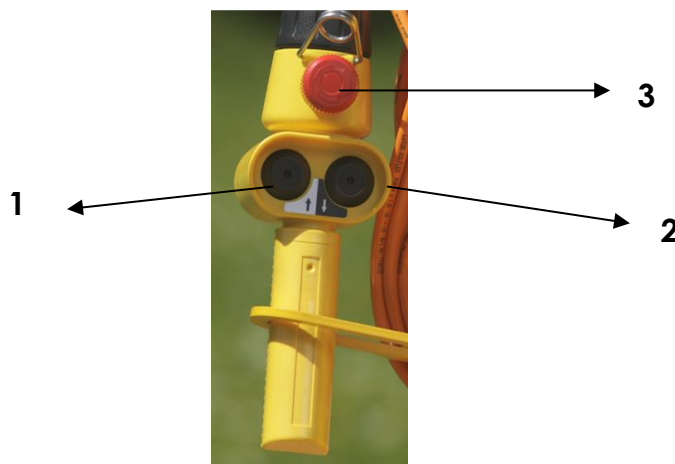

Figure 8
On the steering console (figure 8), press the left button to release the brake. Hydraulic cylinder shifts to position 1. If we disengage pressure on the button in less than 3 seconds, the brake cylinder shuts and the winch is again open and unwinding is not possible. If this button is pressed for more than 3 seconds, the function shifts from "impulse" to "constant release" and despite not holding the button, the cylinder stays in the open position and the winch in unwinding function.
We can start pulling, when the winch is on the ground and properly strengthened. Apply the hand brake on the tractor. If the PTO shaft is engaged and the hydraulic system requires pressure, we can start pulling. Press the right button on the steering console (pos. 2, figure 8). The wire rope starts winding on the drum. When we release the button, the winding stops.